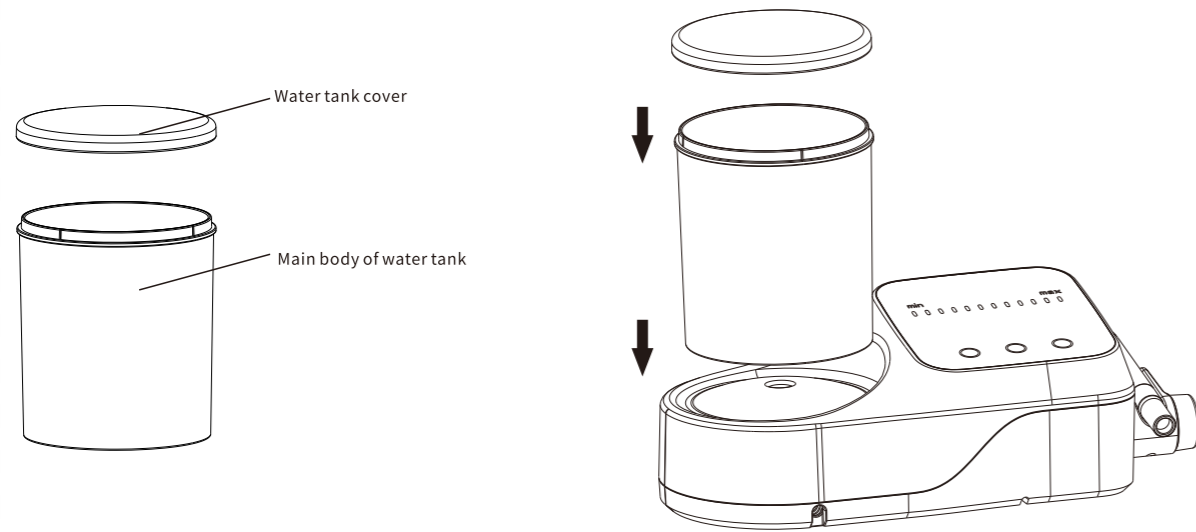

Figure 4 Water Tank Installation Schematic Diagram
- 4) Open the water tank, pour a proper amount of purified water into the water tank, then put its cover back, and install the water tank to the corresponded installation position of the water tank on the main frame (as shown in Fig. 4).